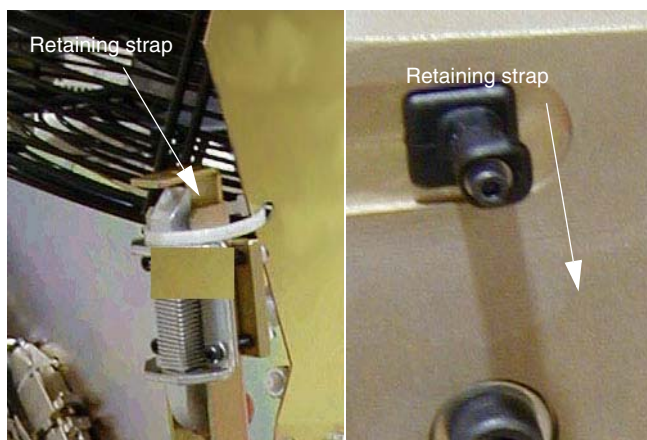

Figure A-22 Service position of upper and lower cantrell brackets.
- a.) Remove upper Cantrell brackets from service position and rotate them into position over their associated retaining pins. See Figure A-22.
- b.) Remove lower cantrell brackets from service position (see Figure A-22), and rotate them into position over their associated retaining pins. Press down firmly on the bracket and snap it into place. See Figure A-24.